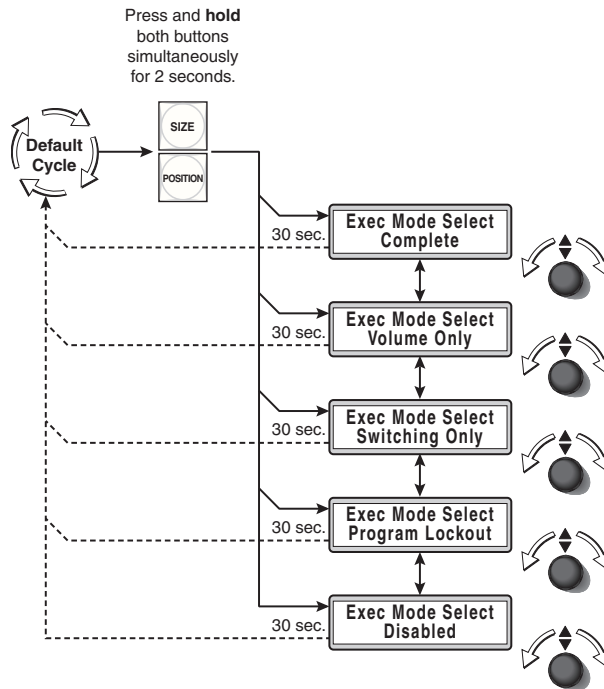

Figure 3-30 — Front panel security lockout flowchart
- 1 Press and hold the Size and Position buttons for approximately 2 seconds (figure 3-30). The LCD displays **Exec Mode Select** and **Complete**. Release the buttons.